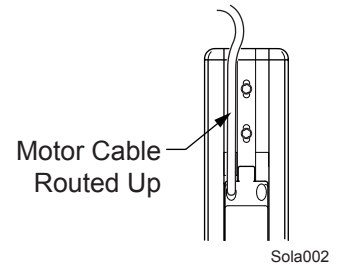

Figure 5. Routing Cable Up.
- 3.2 (Refer to Figure 5) Pull the motor cable out of the hole in the top of the channel.